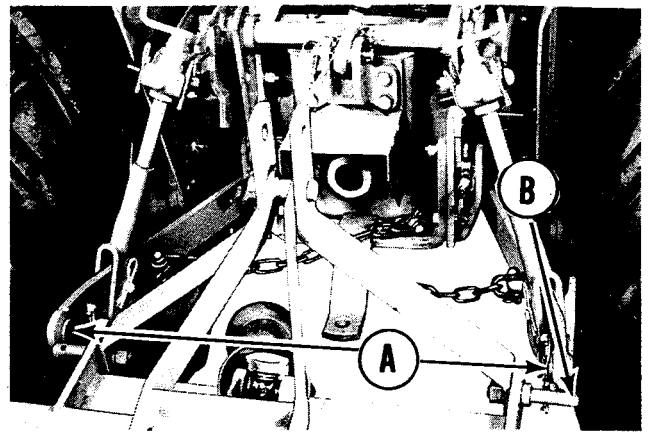

Figure 2. Tractor backed to front of tiller.
2. See figure 2. Back the tractor straight toward the front of the rotary tiller until the swivel sockets (A) are in line with the hitching pins (B). Use the tractor hydraulic lift lever to raise or lower the swivel sockets until they are the same height or slightly lower than the hitch pins.